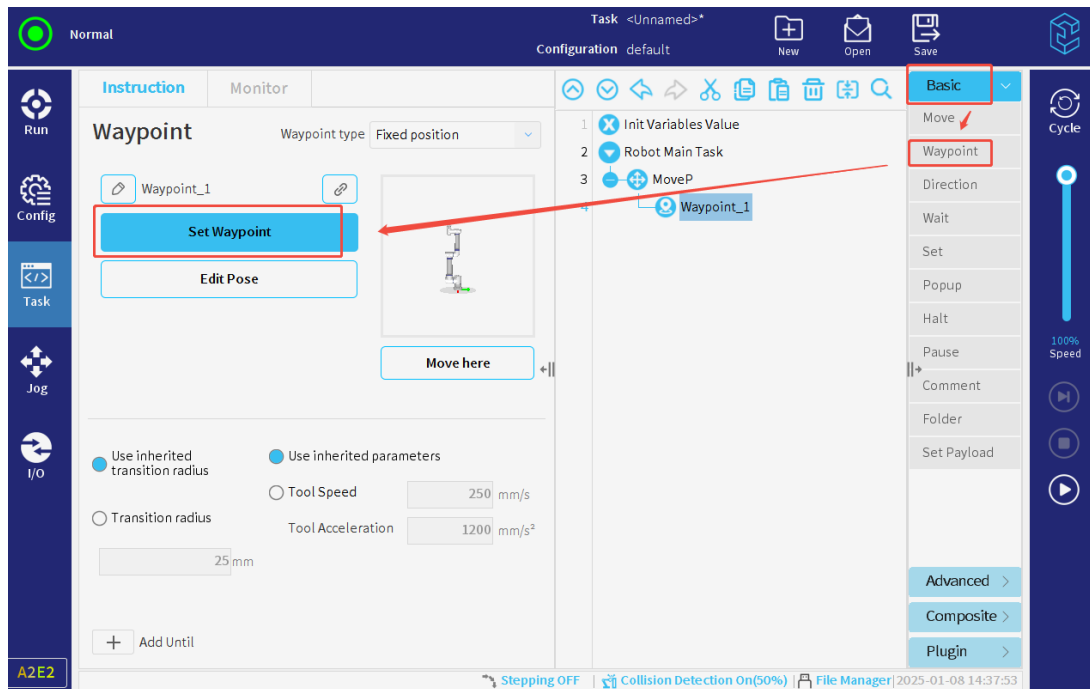

Figure 3-86 : Waypoint
The waypoints are the core element of the robot task, since they are used to record the target points on the path for the robot to reach. The Waypoint can be insert as shown in **Figure 3-86**.
5. After setting, the waypoint node is displayed in blue, as shown in **Figure 3-86**.